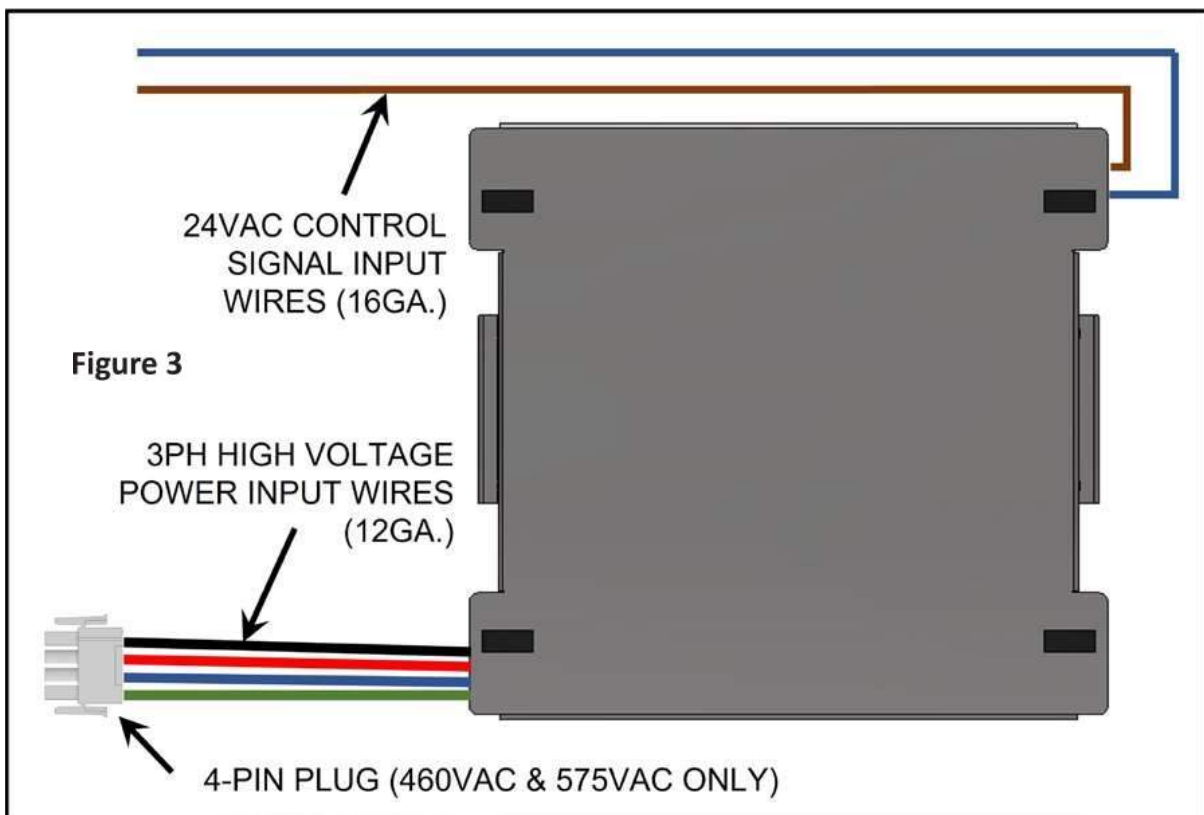

Figure 4
10. Feed the line voltage and low voltage wires through the knockouts provided in the economizer, per Figure 4.
11. Attach the power exhaust flanges to the economizer with (14) screws, and shim legs to suit fit-up.